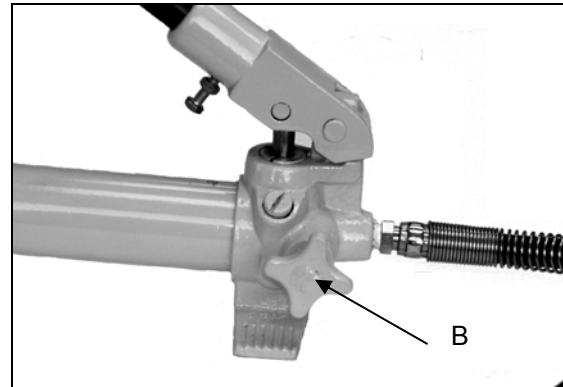

Fig. 2
2. Close release valve (B, Fig. 2) by turning it clockwise. Do not over tighten.